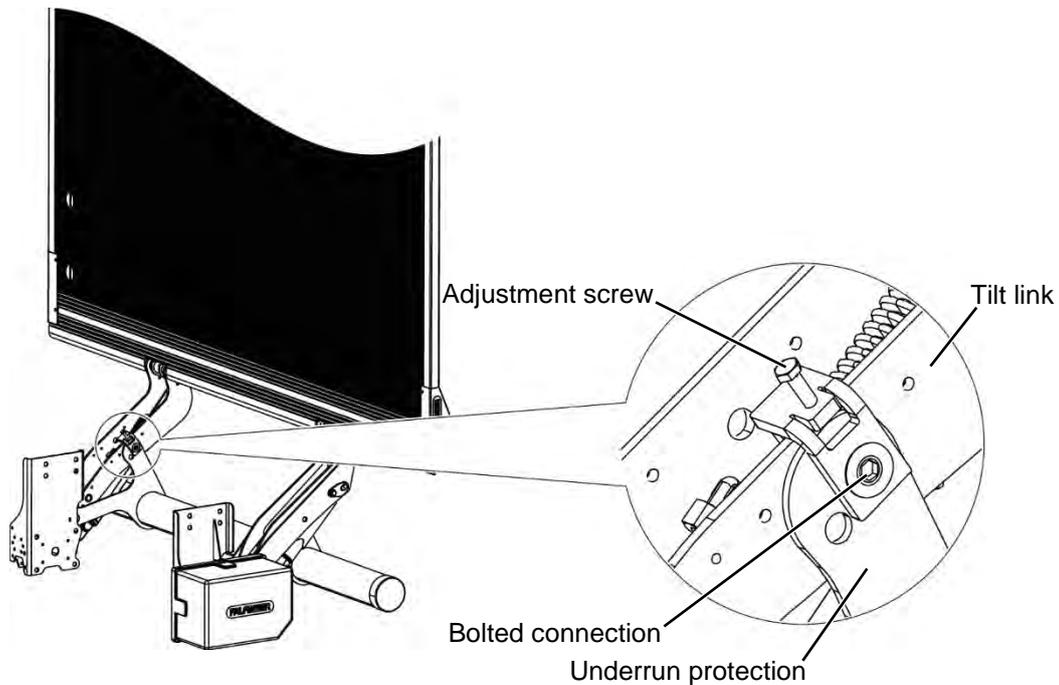

Figure 48: Tilt link, PTC 750
- ▶ Position the platform parallel to the end stop using the adjusting screw on the tilt link (see Figure 48).